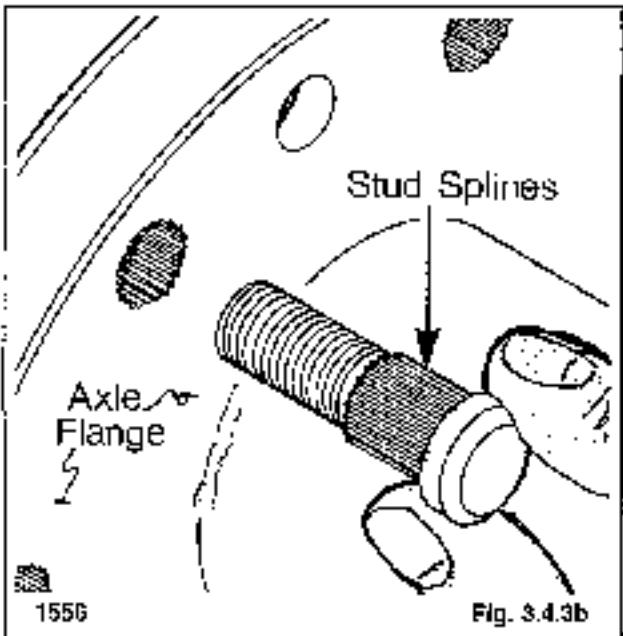

Fig. 3.4.3b
5. Install a new stud from the back of the axle flange (fig. 3.4.3b). Line up the splines on the stud with the splines cut into the axle flange.